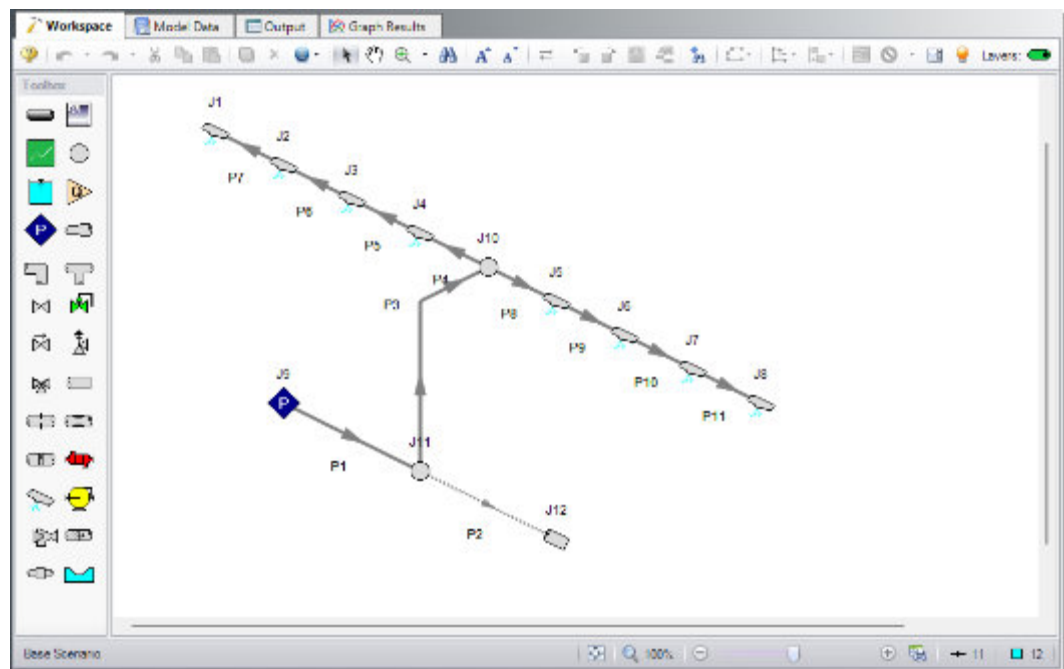

Figure 3.13 Isometric spray discharge system with the grid not shown
15. Turn the grid off in the Arrange menu as shown in Figure 3.13.